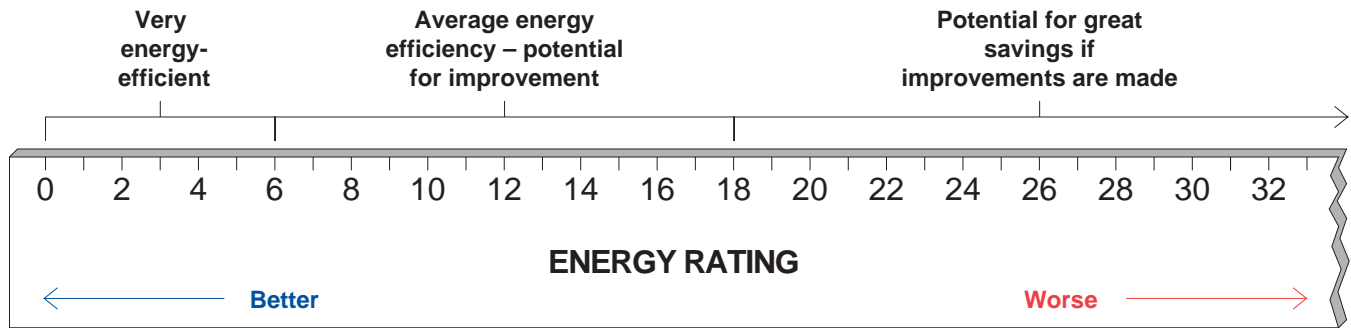

Figure 1-1 - Home Energy Rating Yardstick
**Step 7** - Finally divide the figure in Box C by your climate factor (Box D), multiply by 1,000,000, and write the answer in Box E. This is your "Home Energy Rating". That's it. To assess your home's energy efficiency and potential for improvement, find where your Home Energy Rating falls on the Yardstick in Figure 1-1 on page 1.